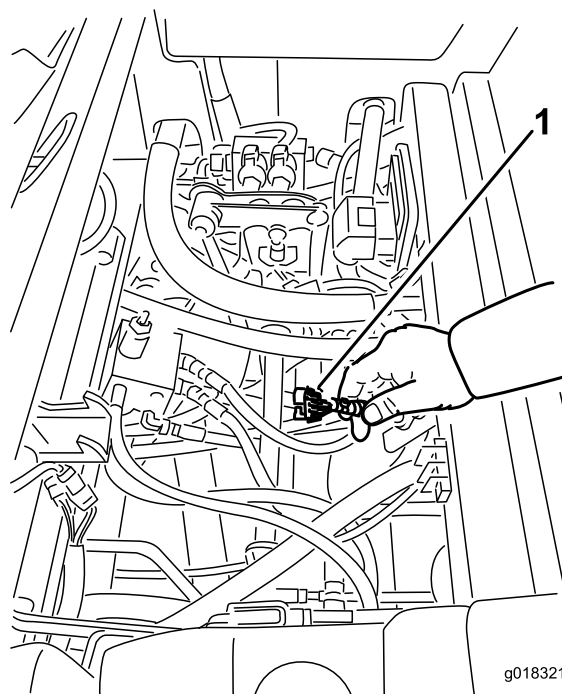

Figure 21
3. Locate the wire harness and connectors near the controller (Figure 21).